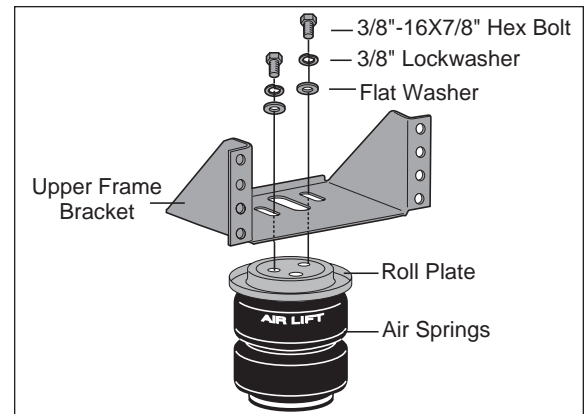

Figure 4
2. Align the holes in the roll plate with the holes in the air spring and loosely attach the upper bracket with the “legs up” using two 3/8”-16x7/8” bolts, lock washers, and flat washers (Figure 4). The upper bracket must be installed in this position.